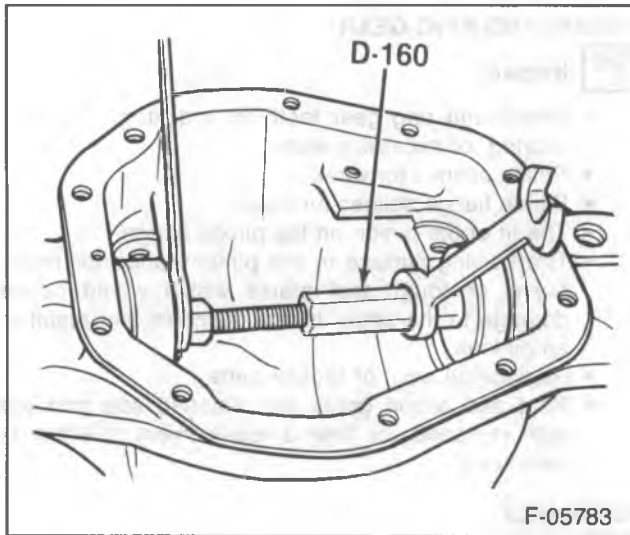
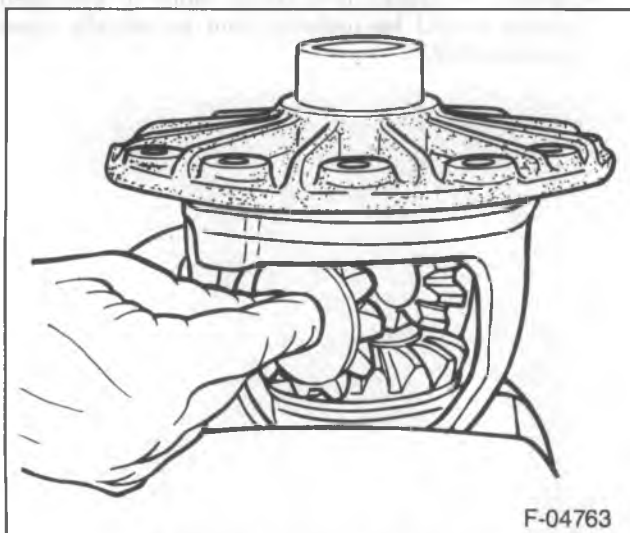

Figure 17—Installing the Axle Shaft Seals
Figure 18—Installing the Pinion Gears
1. Axle shaft seals, using D-160 (figure 17).
2. New side gear thrust washer (27) to the side gears (25).
3. Side gears (25) to the differential case.
- Place the side gears in place on the same side as removed (figure 18).